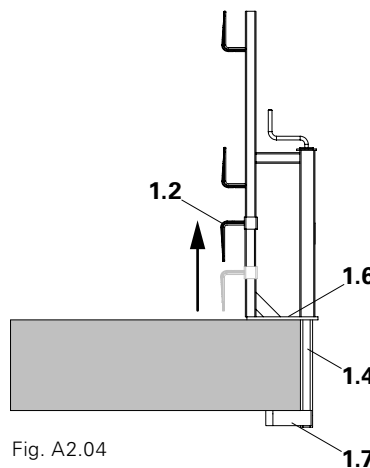

Fig. A2.04
5. Position the guardrails (7) in the L-angles (1.5). (Fig. A2.04)
6. Push toe board holder (1.2) upwards and position toe boards (8). (Fig. A2.04)